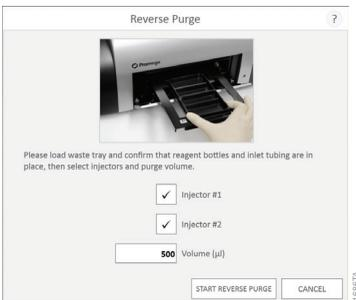

Figure 114. Injector Purge function.
2. Tap the **Start Reverse Purge** button (Figure 114).